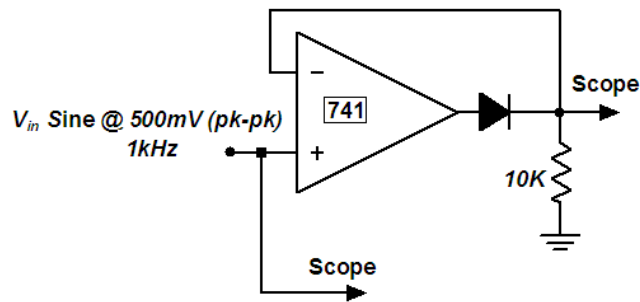

Fig1:- Precision Half Wave Rectifier
When a diode is used in the feedback loop of an op-amp then it behaves as nearly an ideal diode. So, the configuration as shown in fig 1 can be used for small signal (precision) rectification application. The input voltage that turns on
1. Connect the circuit as shown in fig 1.